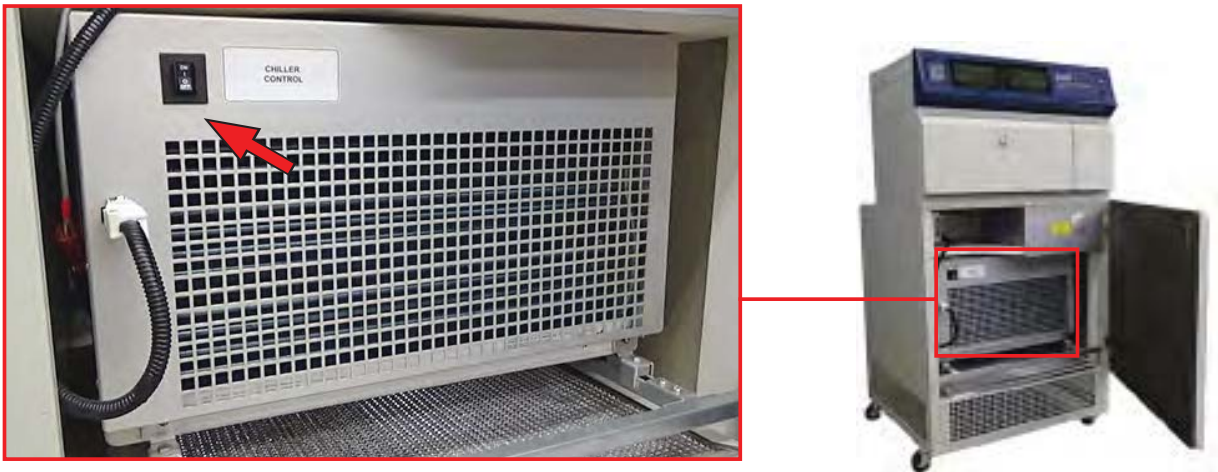

Figure 11.2c: Chiller circuit breaker switch location.
- A circuit breaker is located behind the chiller front door (Figure 11.2c).